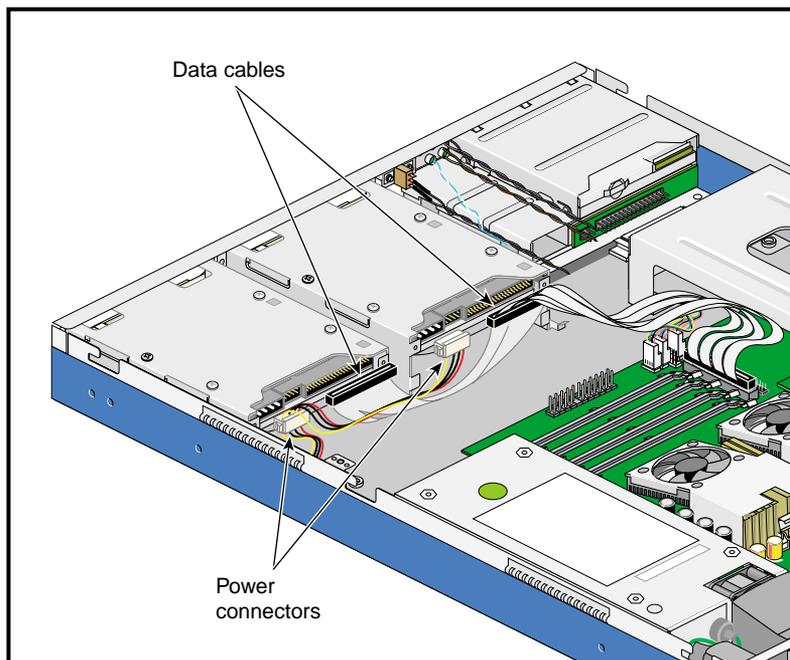

Figure 2-36 Removing Hard Drive Cables
3. Disconnect the power cable and the data cable from the back of the hard drive as shown in Figure 2-36.